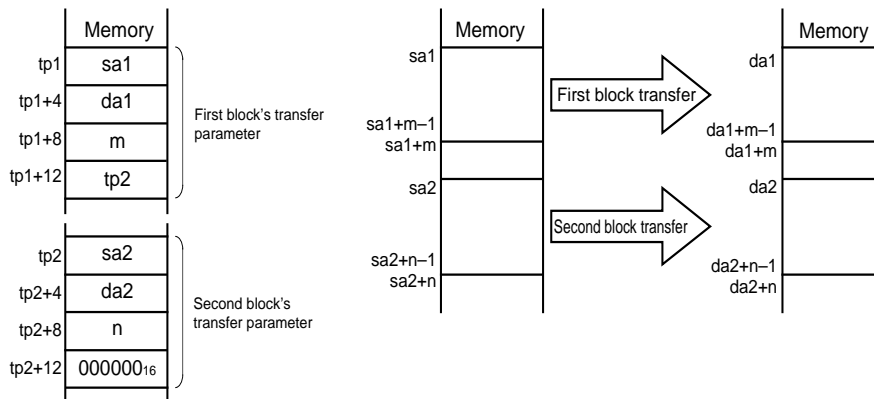

Fig. 13.8.9 Conditions necessary for timings shown in Figures 13.8.7, 13.8.8, and 13.8.10 through 13.8.14
Figure 13.8.6 shows the operation flowchart of the link array chain transfer mode, and Figures 13.8.7 and 13.8.8 show timing diagrams of the link array chain transfer mode (burst transfer mode). In addition, Figure 13.8.9 shows the conditions necessary for timings shown in Figures 13.8.7, 13.8.8, and 13.8.10 through 13.8.14.
Figure 13.8.9 shows the conditions necessary for timings shown in Figures 13.8.7, 13.8.8, and 13.8.10 through 13.8.14.
● The above figure is the example of initial term for processing the first block in "Figure 13.8.9."
- The above figure is the example of initial term for processing the first block in "Figure 13.8.9." When the array chain transfer mode is selected, there is not the term of \*2.
- The above figure is the example of the second 1-unit transfer for processing the first block in "Figure 13.8.9."
- The above figure is the example of the last term for processing the first block in "Figure 13.8.9."
- The above figure is the example of the last term for processing the second block in “**Figure 13.8.9.**”